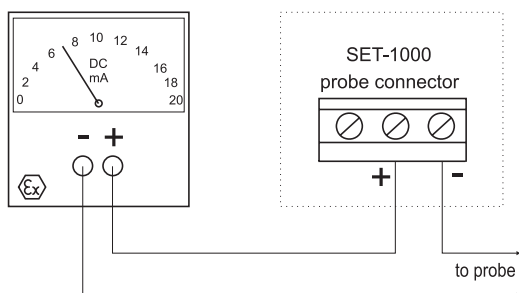

Figure 5. Probe current measurement
- 3.3 Connect mA-meter as in figure 5.